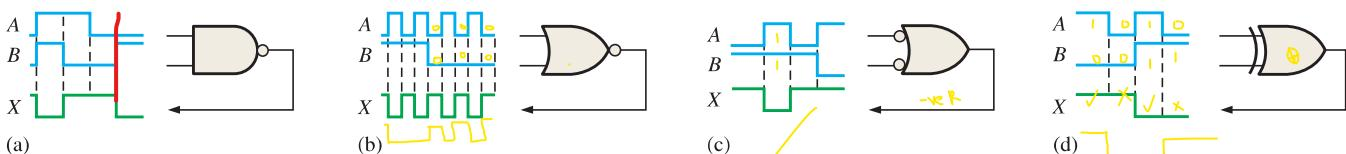

FIGURE 3–93
- 41.** Using an oscilloscope, you make the observations indicated in Figure 3–94. For each observation determine the most likely gate failure.